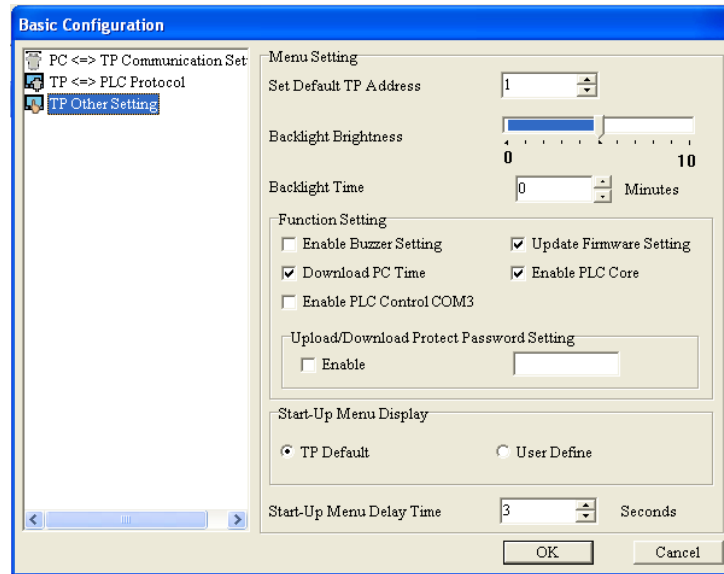

Figure 3-15 TP Other Setting
- **TP Other Setting:** Users can set the hardware of the TP series text panel used, such as the station address of the TP series text panel used, and the brightness of the backlight that illuminates the screen of the TP series text panel used. The functions supported vary with the model used. If the users select a value in the **Backlight Setting** box, the backlight that illuminates the screen of the TP series text panel used will last for the time set. If the value selected in the **Backlight Setting** box is 0, a backlight will always illuminate the screen of the TP series text panel used. The buzzer will be enabled after the **Enable Buzzer Setting** is selected. If the **Download PC Time** checkbox is selected, the time of the clock in the computer will be downloaded to the real-time clock in the TP series text panel used. After the **Update Firmware Setting** checkbox is selected, a dialog box which leads the users to update the firmware in the TP series text panel used will appear if TPEditor detects that the firmware in the text panel is old when the program in TPEditor is downloaded to the text panel or the program in the text panel is uploaded to TPEditor. If the **Enable PLC Core** checkbox is selected, the PLC in the TP series text panel used will be enabled. If the **Enable PLC Core** checkbox is unselected, the PLC in the TP series text panel used will be disabled, system resources will be saved, and the screen of the text panel will be updated more rapidly. When users select **Enable PLC Control COM3**, COM3 will be occupied by internal PLC core, otherwise COM3 will belong to TP for communication. If the users select the **Enable** checkbox in the **Upload/Download Protect Password Setting** section, and type a password, they are asked to type the password when they upload/download the project created. In the **Start-Up Menu Display** section, the users can select the **TP Default** checkbox, or the **User Define** checkbox. The users can set the time for which the boot screen selected lasts. Please see Figure 3-15.